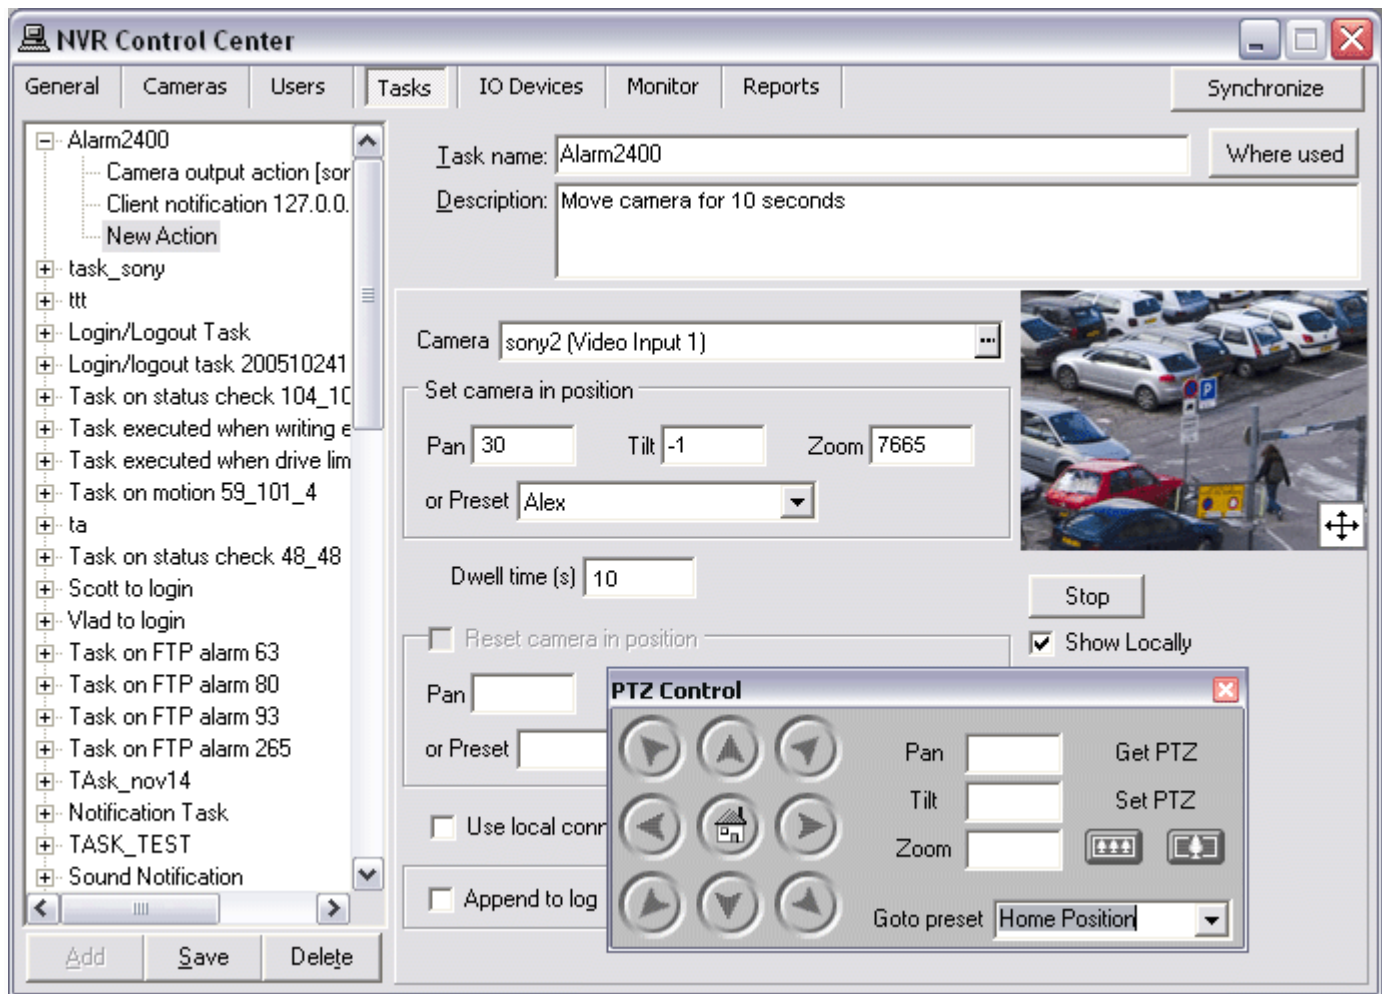

Fig 78. NVR Control Center — Tasks
2. Getting PTZ values of the current position of the camera click on **Get PTZ** (Fig 78).